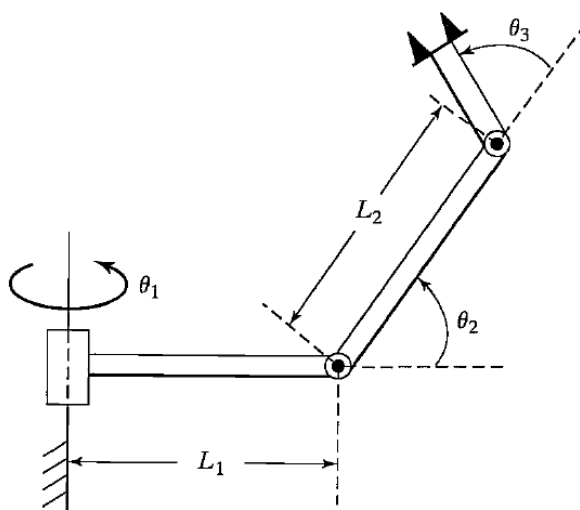

Figure 1: A 3R, 3-DOF robot arm.
1. [25 points] The arm with three degrees of freedom shown in Figure 1 is a 3R robot, except that joint 1's  $\mathbf{Z}$  axis is not parallel to the other two. Instead, there is a twist of 90 degrees in magnitude between axes 1 and 2. Find D-H table parameters for this robot, and find the transform  $T_{13}$ , with  $F_1$  being coordinate frame for the first joint.